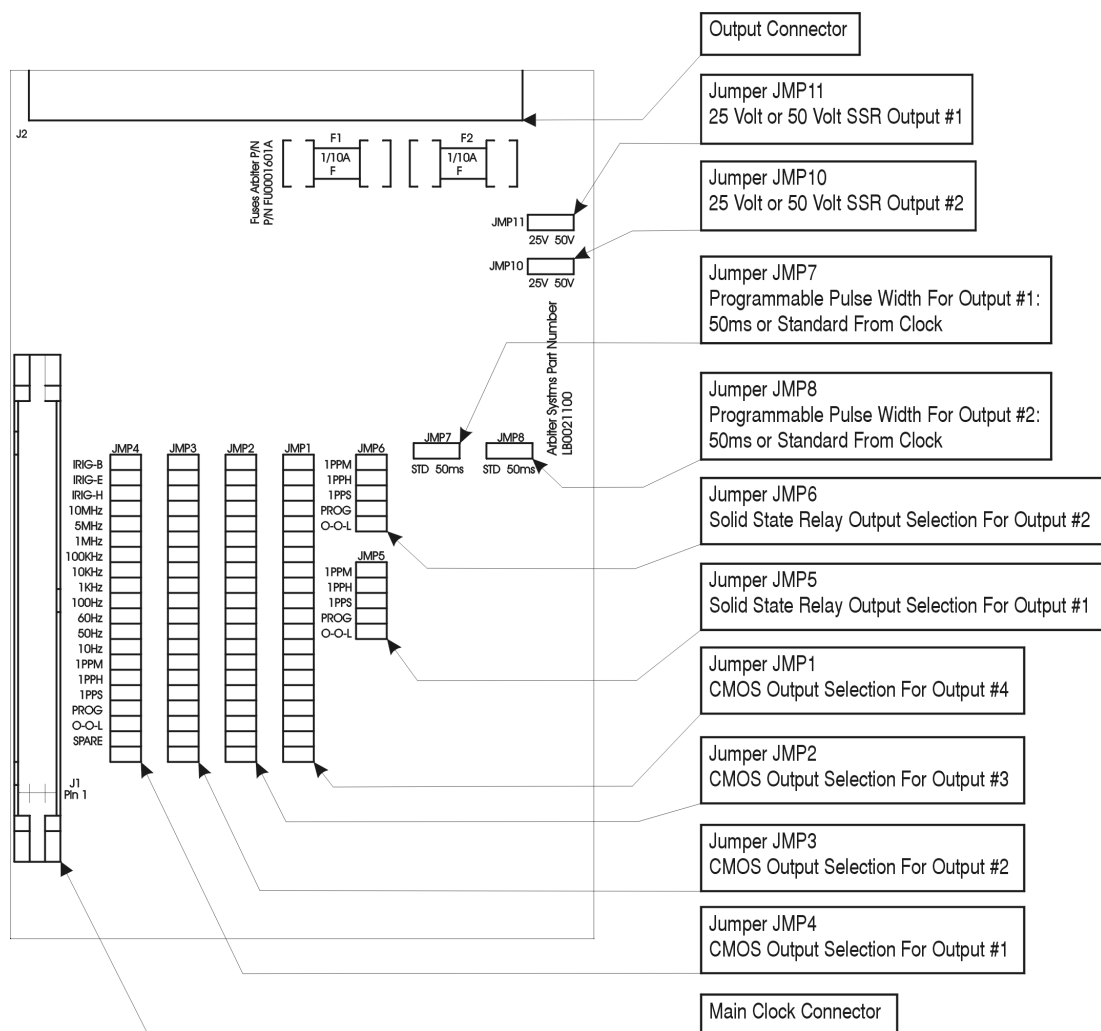

Figure C.27: Option 29 Jumper Locations
Available Signals: Jumper selectable to any of the digital signals available from the clock mainframe. See Figure C.27 for Jumper location and selections.
3. Locate the appropriate Jumper using Figure C.27 and move the jumper to the desired setting.